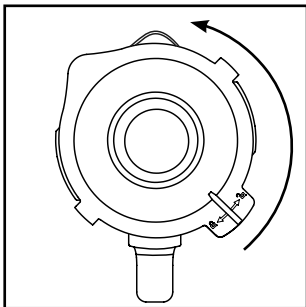

Fig. 1
- 1) Rotate the blender ③ anticlockwise until the arrow ▼ under the blender handle is located above the  position. Remove the blender ③ from the motor block ⑥ in a vertical, upward motion.
- 2) Remove the lid ② by rotating it anticlockwise towards position  (see Fig 1) until you can pull it upwards.